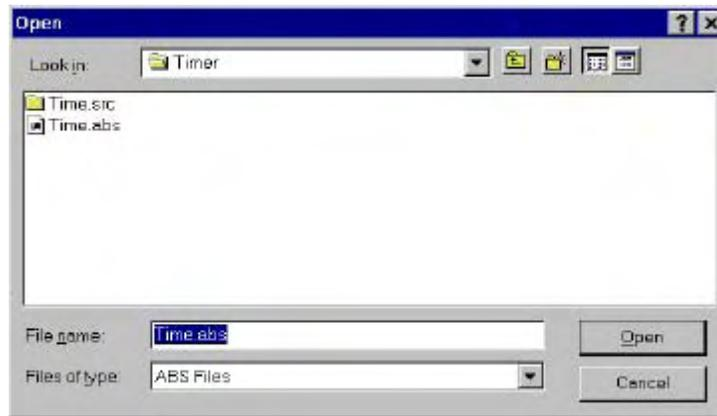

Figure 58. Loading Code
3. Four folders will appear. Double click the Examples folder. You will have a folder and a file appear (Figure 58).